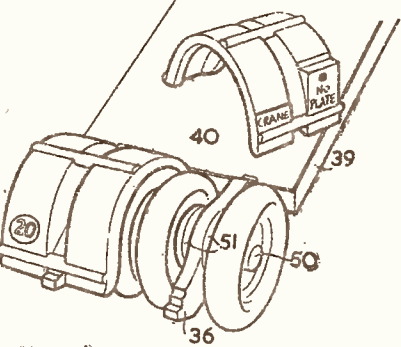

Fig. 9—The windlass mechanism
Mounted on the front end (37) is the cable winch from parts 41 to 46. The various cog wheels are painted silver and the gear teething painted on the edge with black lines close to each other across the width. A short length of cord or thick thread can be wound round the drum (46) to indicate cabling, if you wish. Assemble these parts as Fig. 9 and then glue central to the part 40, as shown on the dotted lines of pattern.